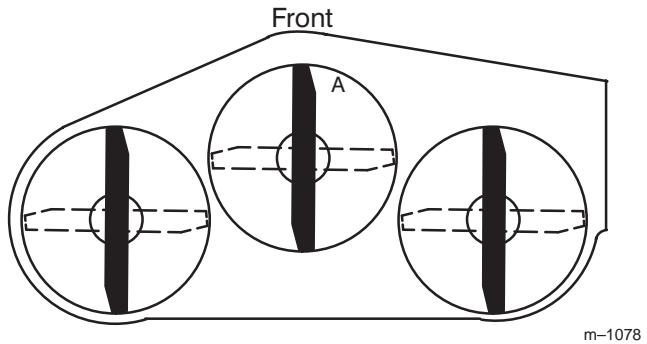
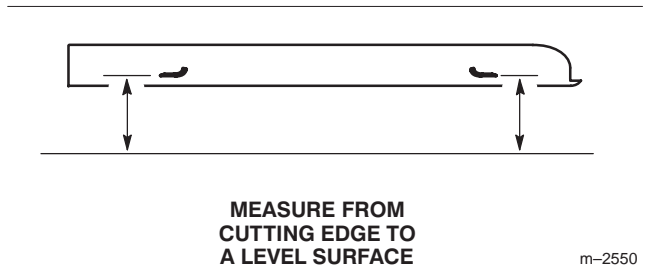

Figure 55
Figure 56
3. With the machine on level surface, position one blade front-to-rear (Fig. 55). Measure at "A" and from level surface to the cutting edge of the blade tips (Fig. 56).